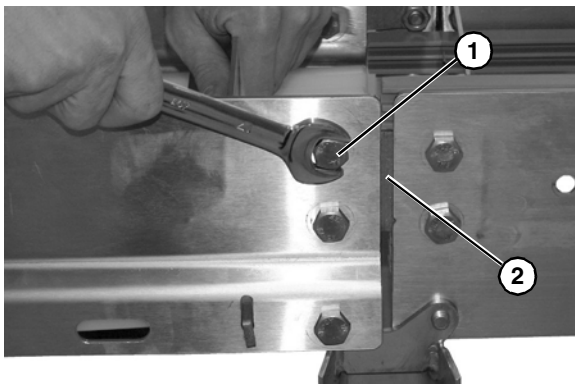

Figure 51
2. Remove two hex head bolts (**Figure 51, item 1**) holding straight section frame to section connecting bracket (**Figure 51, item 2**). Repeat on opposite side.